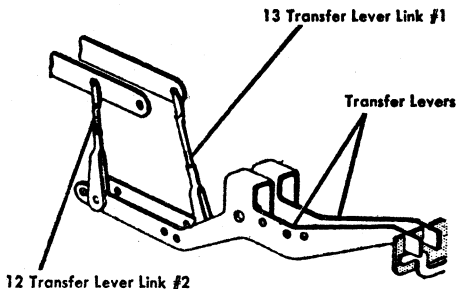
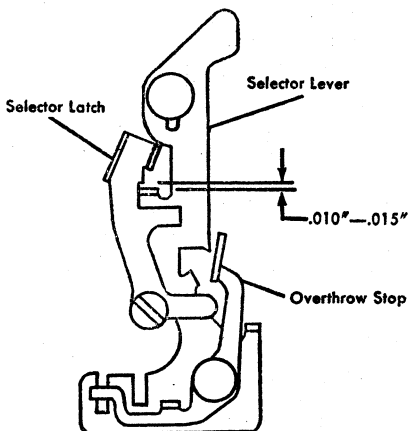

Figure 6. Transfer Link Adjustment
Figure 7. No. 1 Transfer Link Adjustment
12. THE LINK IN THE NO. 2 TRANSFER LEVER is placed in the second hole from the front end and extends upward to the second hole from the end of the No. 2 key lever. Adjust the link so that the clearance between the selector lever and the upper notch in the selector latch is $.010''$ to $.015''$ when the No. 2 key lever is fully depressed. Check that the overthrow stop does not choke off the No. 2 key lever through the selector lever; form the stop if necessary. Be sure that the overthrow engages the selector lever without interference while the No. 2 selection is being made and is held in position by the selector lever after the latch engages (Figure 6). The stop must not interfere with the selector lever when the No. 1 selection is taking place.
13. THE LINK IN THE NO. 1 TRANSFER LEVER is placed in the fourth hole from the end and connected to the back end of the No. 1 key lever (Figure 6). Adjust the link so that the clearance between the selector lever and the lower notch in the selector latch is $.010''$ to $.015''$ when the No. 1 key lever is fully depressed (Figure 7). After the above two adjustments have been made the cam release links should be rechecked.